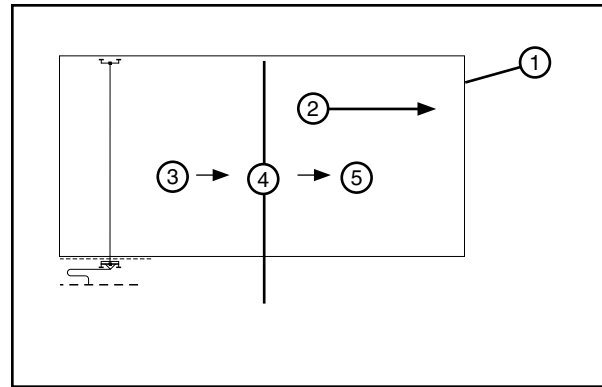

Figure 39-1 1. Field 2. Direction of Travel 3. Wet 4. STOP 5. Dry
1. The percentage timer is set at the desired application rate and the system is started at one end of the field and run wet (irrigating) to the middle of the field. See Figure 39-1.
2. The system is stopped, the percentage timer is set to 100% and the system is run dry to the other end of the field. See Figure 39-1.